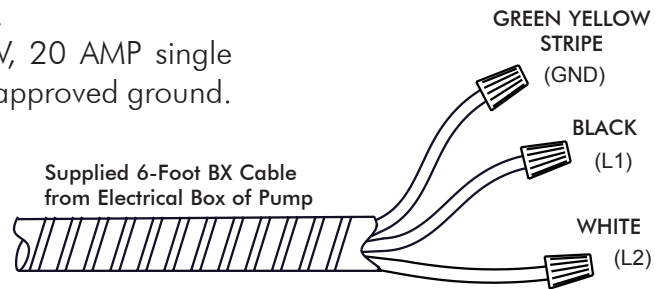

Figure 7. MOJAVE LT3 Power Connection
4. **System Electrical Connections.** Refer to the Electrical Connections section (See Figure 7.) and connect the pump to 220V facility power. Refer to Figures 8 and 9 when connecting the low power remote switch.
Figure 7 shows the wiring of the electrical BX cable used to connect the LT3 directly to facility input power.